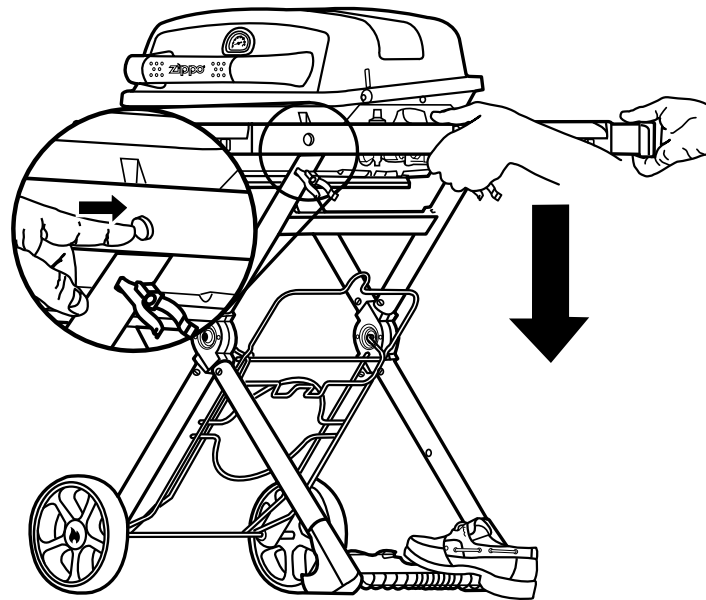

figure 30
1. Press buttons on either side of work surface as shown in figure 30.
2. Place foot on tow handle as shown in figure 30.
3. Carefully lower the work surface while keeping your foot firmly on the Leg Handle (35).